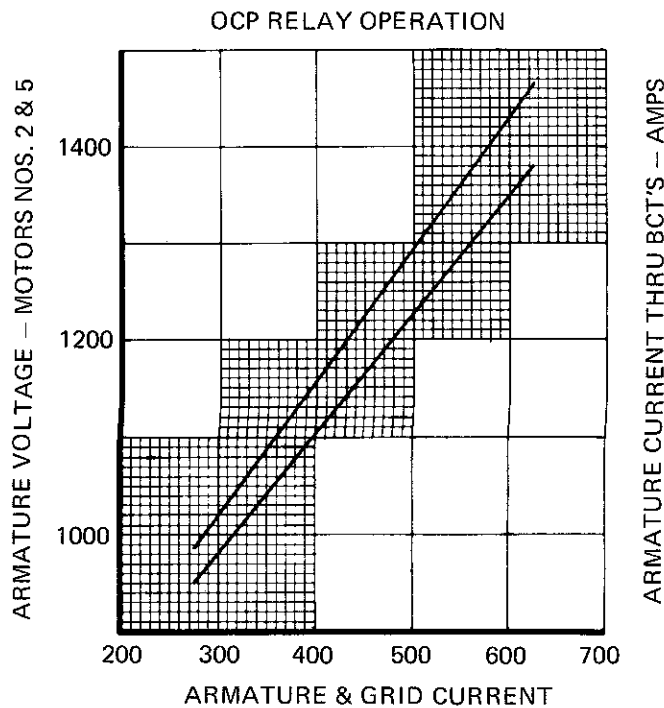

Fig. 1
The graph in Fig. 1 must be used for calibrating the OCP relay. A current level of 300 amps is the absolute minimum for making the setting. The procedure is as follows:
9. With use of stall current, set locomotive up for power operation, set air brakes hard, and control current through the OCP with the throttle and rheostat. Obtain 400 amps through the OCP relay. Run MG set voltage up until OCP picks up (test light comes on) and observe voltage and current. Adjust OCP to pick up with limits as given on Fig. 1. If the MG set will not put out a high enough voltage to pick up OCP at 400 amps reduce current, however, 300 amps is minimum current value.